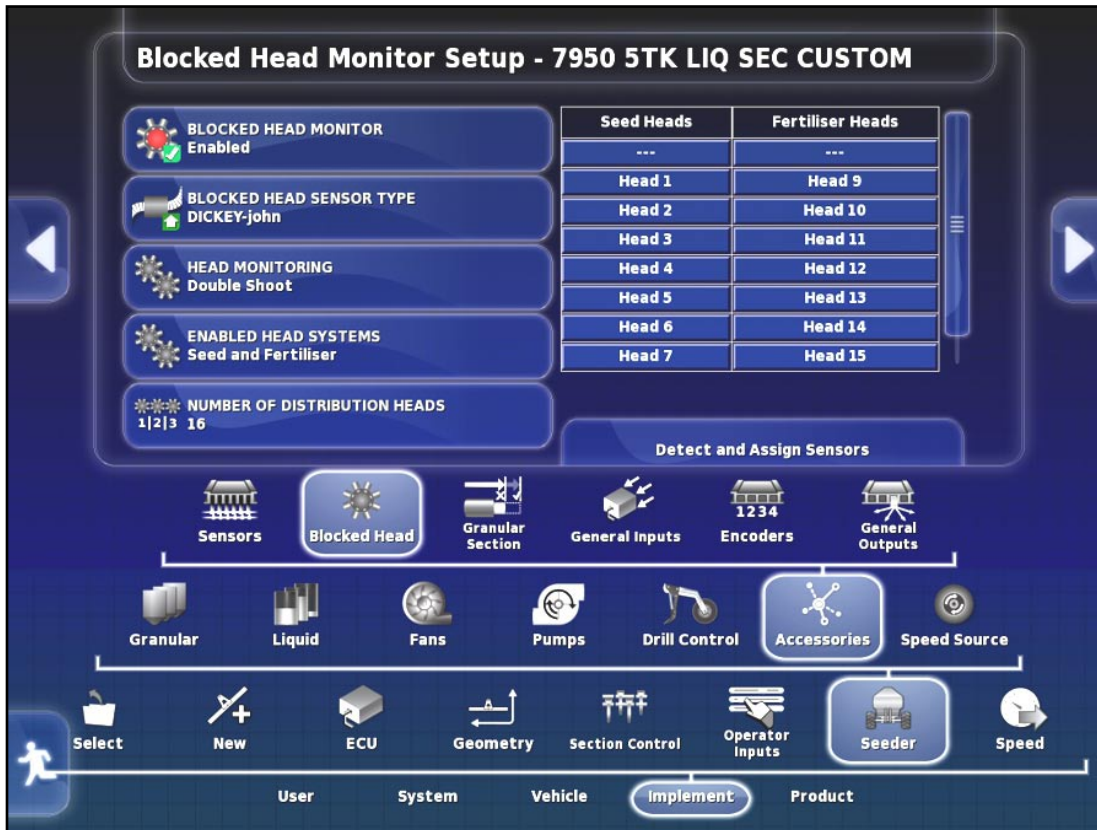

Figure 6.81 - Blocked Head Monitor Settings (Custom Profile)
- If custom profile was used during set up, then the following settings will need to be configured, refer to *Figure 6.81*.
- A list of the Distribution Heads will be shown, refer to **Figure 6.81**. Each distribution head can be re-named by selecting a button for specific distribution head, an input screen will appear to input the desired description. Example: SEED1 LOW (seed 1 left outer wing), Seed5 RMF (seed 5 right main frame), FERT6 IRIW (fertilizer 6 inside right inner wing). The naming convention in this example is also used to name heads for a factory profile.
Select Detect Each or Detect Sensors, Refer to **Figure 6.81**. List of sensors will appear.